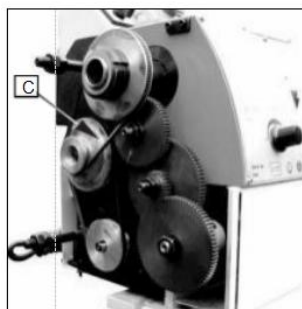

Fig. 16
2. Justera kilremmen (C, Fig.16) motsvarande position.